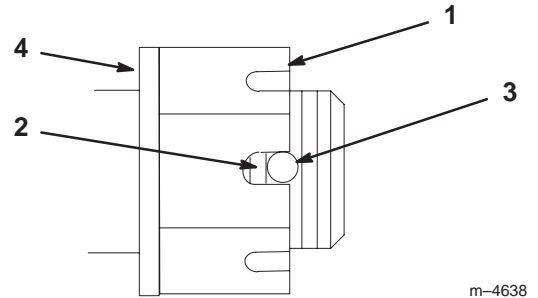

Figure 48
3. Torque slotted nut to 125 ft-lb (170 N•m) (Fig. 48).
4. Check the distance from bottom of slot in nut to inside edge of hole. Two threads or less should be showing (Fig. 48).
5. If more than two threads are showing remove nut and install washer between hub and nut (Fig. 48).
6. Torque the slotted nut to 125 ft-lb (170 N•m) (Fig. 48).
7. Tighten nut until the next set of slots line up with the hole in the shaft (Fig. 48).